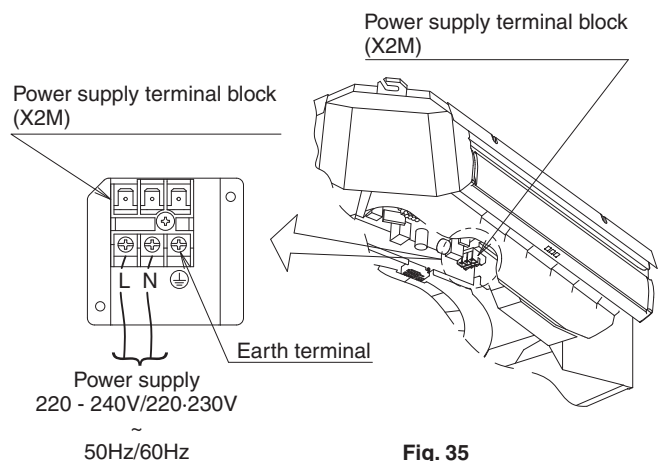

Fig. 35
- Open the control box lid and connect the single phase power supply to the terminal (L, N) on the terminal block (X2M). Connect the earth wiring to the earth terminal. (Refer to Fig. 35)